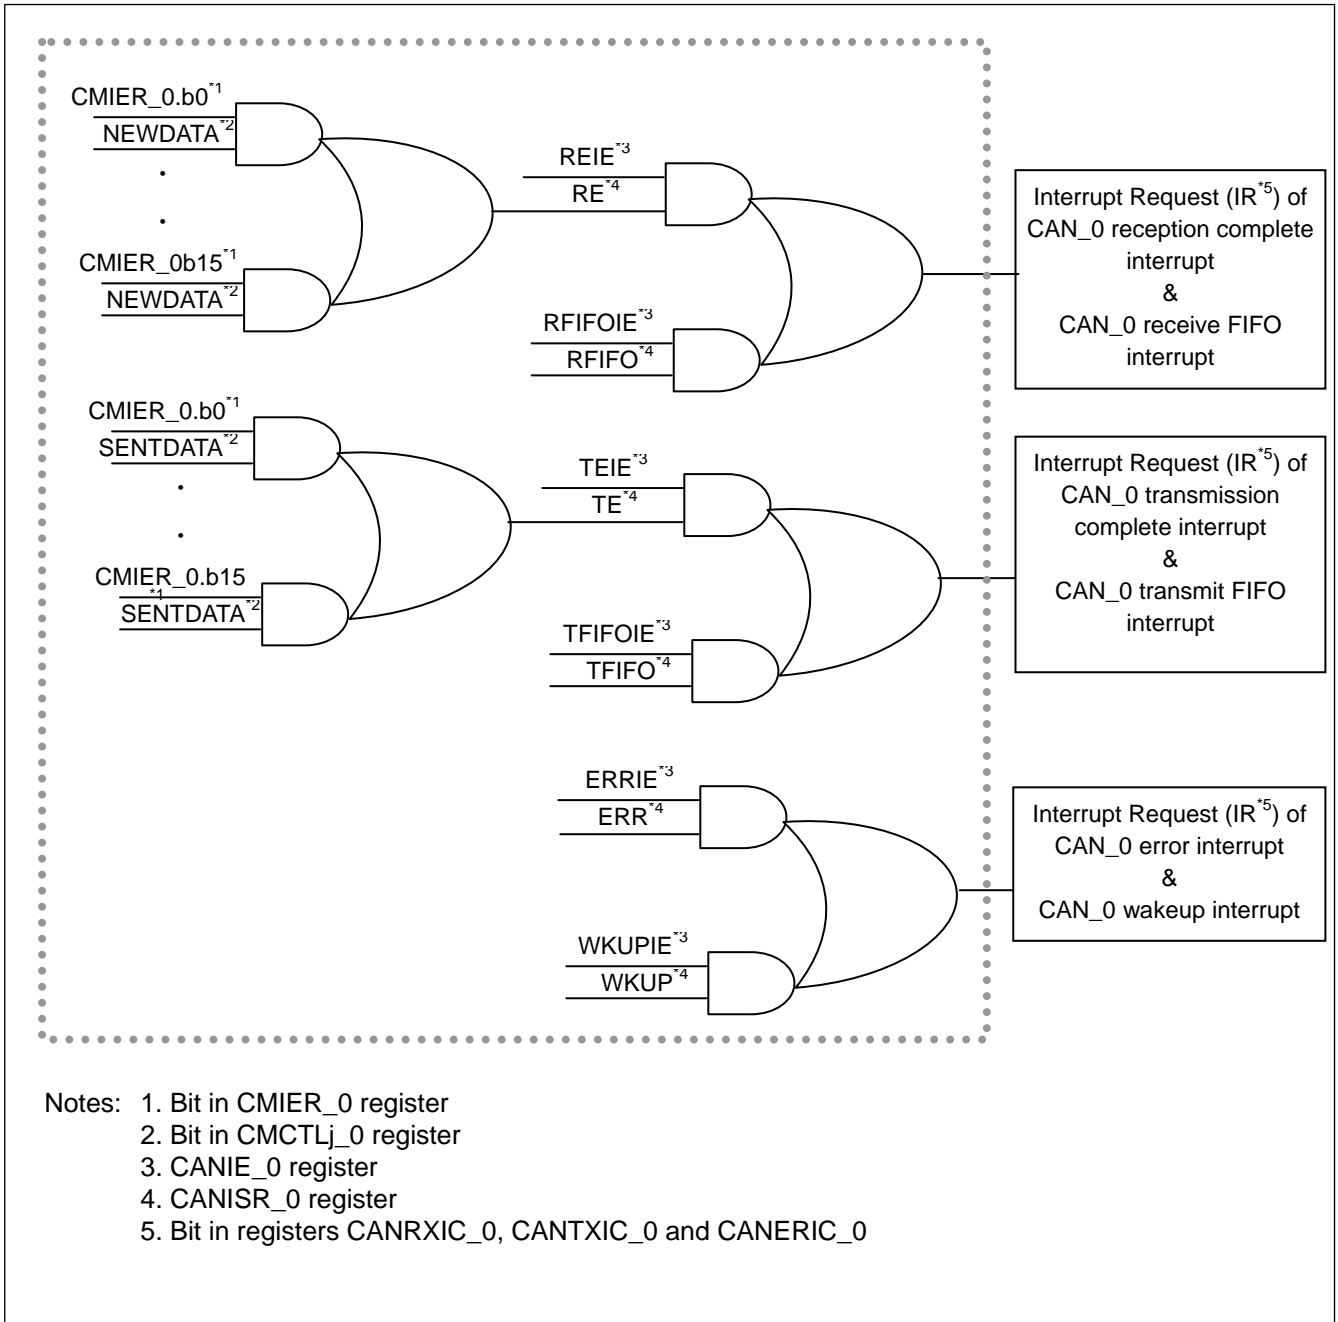

Figure 2.50 Relation between CAN interrupt control and interrupt request
Figure 2.50 shows the relation of CAN interrupt control and Interrupt Request bit (IR) in the corresponding interrupt control register.